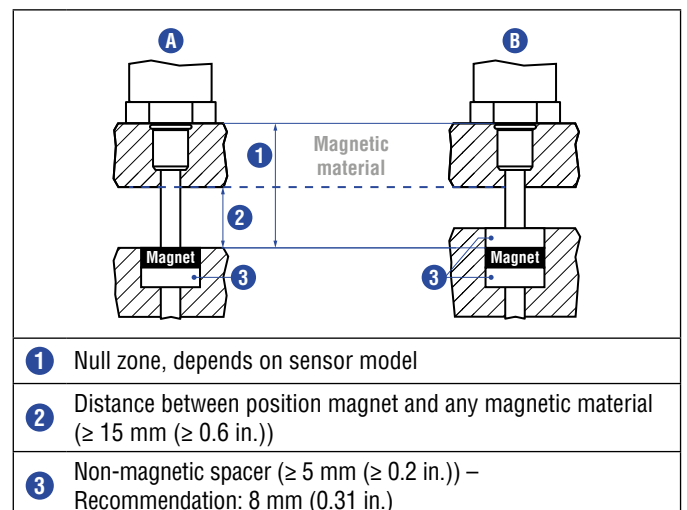

Fig. 51: Installation with magnetic material
- Minimum distance between position magnet and any magnetic material has to be 15 mm (0.6 in.) (Fig. 51).
- If no other option exists and magnetic material is used, observe the specified dimensions (Fig. 51).
When using magnetic material the dimensions of Fig. 51 must be observed.